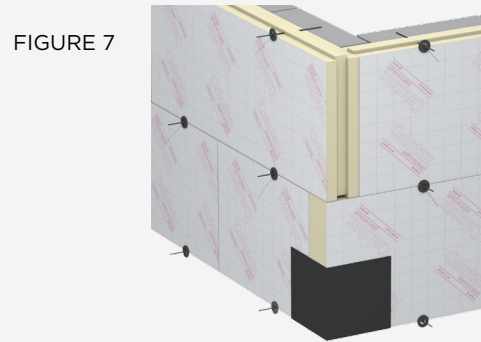

FIGURE 7
- Boards should be arranged in a 'blocking' arrangement, as shown in Figure 7, to ensure staggered corner edge joints.
- If the tongue of the board is exposed at the corner edge, this should be removed using a sharp specialist insulation saw or insulation knife (see bottom row corner board in Figure 7). There is no need to cut or fill the groove of the board when it is exposed at the corner edge.